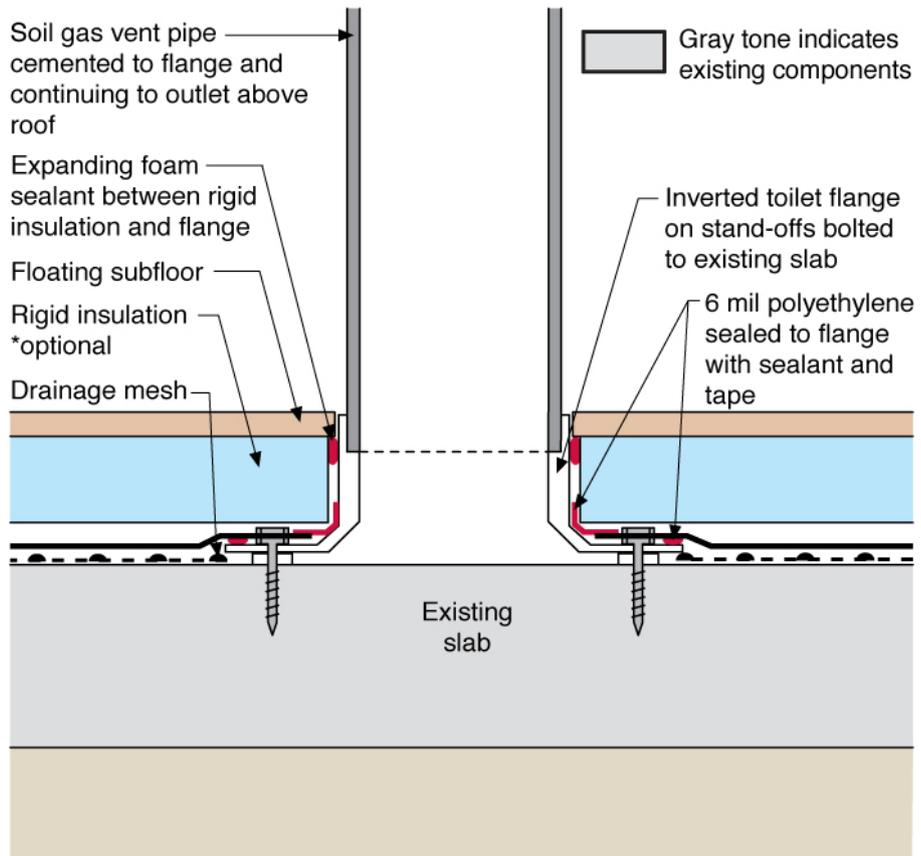

Figure 5. Detail showing connection of a radon vent stack to an existing basement slab. (BSC).
5. Install the vertical pipe by cementing it to the flange. Avoid using 90-degree angles in the vertical portion of the pipe; use sweeps if turns are needed. Label the pipe on each floor so it is clear the pipe is not part of the sewer system. If the ventilation pipe extends through an unconditioned attic, insulate the stack to control condensation in the pipe. See Figure 5.